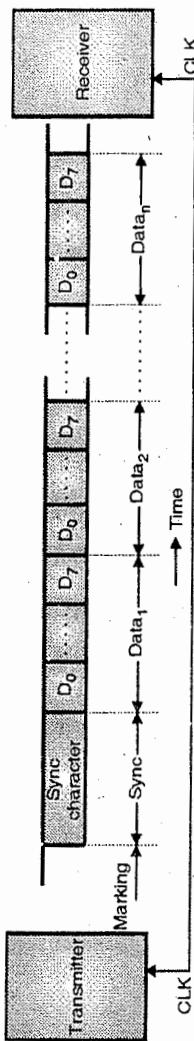

Fig. 12.2.2 : Synchronous data format
- Packet of data is of size ' $n$ '. The data bytes in a block are transferred one after the other. As shown in Fig. 12.2.2  $D_0$  to  $D_7$  data bits of data1, data2, ..... datan; is transferred serially.
- The sync character may be any digital bit pattern which is used for transmitter and receiver. Refer Fig. 12.2.2.